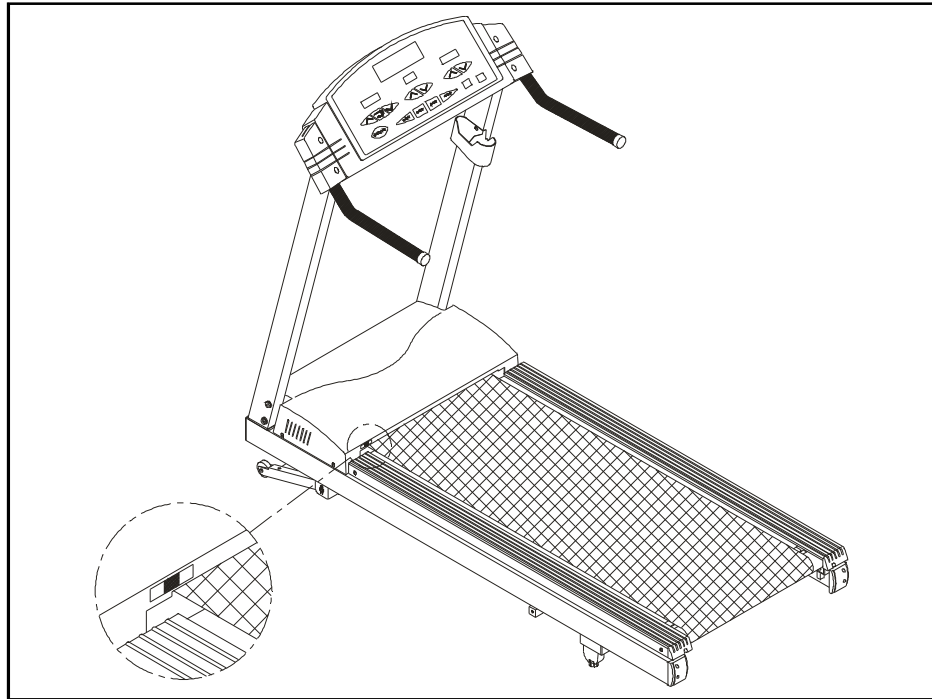

Fig.8
**IMPORTANT:** Before using the treadmill, the left edge of the running belt must be completely in the green portion of the BELT ALIGNMENT GAUGE, located on the left side of the motor shroud (see Fig.8). Please refer to the "Maintaining treadmill" section "Adjusting the running belt" for further information.